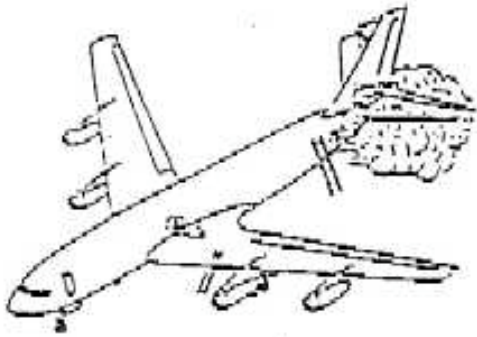

FIGURE 10
- b. Over wing emergency exits. (See figure 10.)